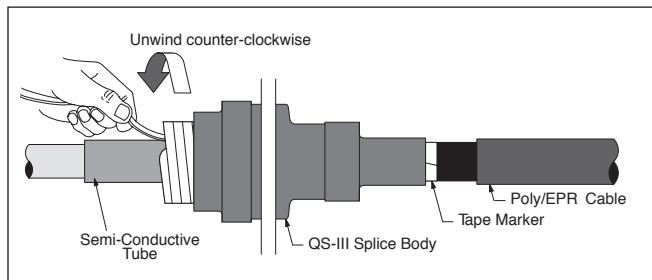

Figure 14
- 5.7 Position cold shrink splice so leading edge of splice (not core) aligns with the previously applied tape marker (*Figure 14*).
- 5.8 Install splice by pulling the ribbon tab and unwinding **counter-clockwise**, while maintaining alignment with the tape marker. (*Figure 14*).